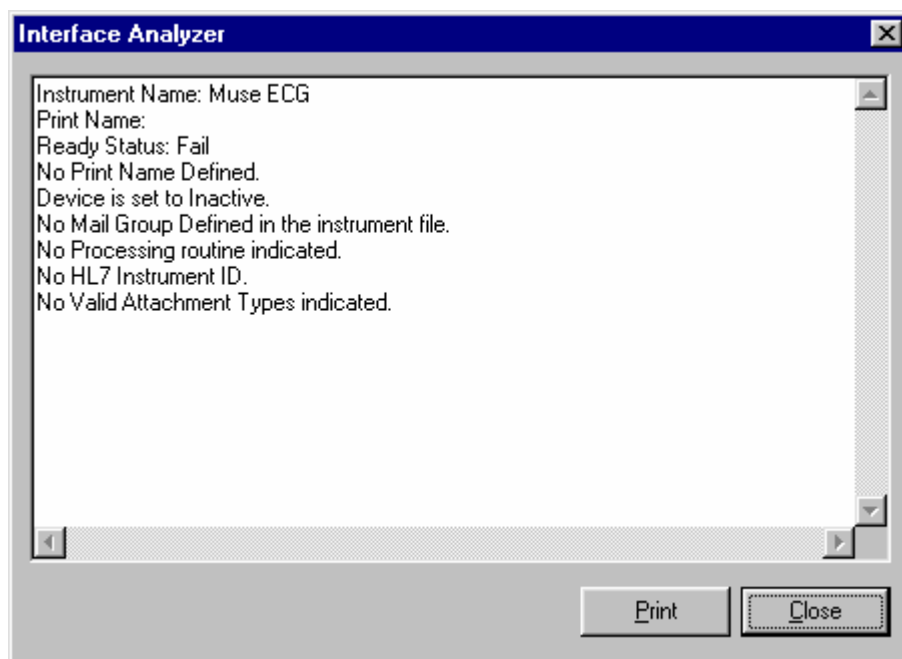

Fig. 6-6
2. Select the instrument that you want to analyze. Click **Analyze**. A window similar to Fig. 6-6 is displayed. This window indicates the ready status of the instrument and lists other information as well.
After you complete the edits, if you entered the name in upper case, the procedure name that you just entered is displayed in title case, Pacemaker Followup, (the first letter of every word is capitalized), in the left side of the CP Manager window. See Figure 6.6.